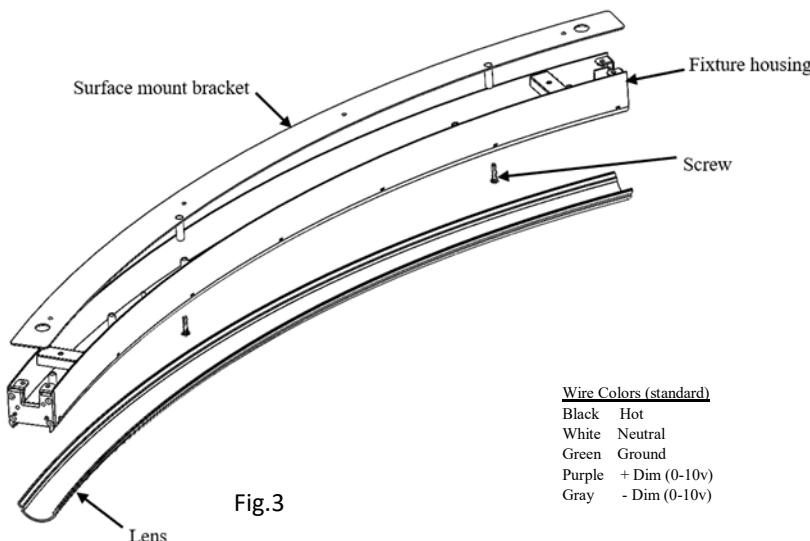

Fig.3
4. Wire segment 1 to building mains and attach to surface mount brackets. Screw housing into the standoffs to secure fixture to surface mount brackets . (Fig.3 & 4) **Note: Do not over torque screws**